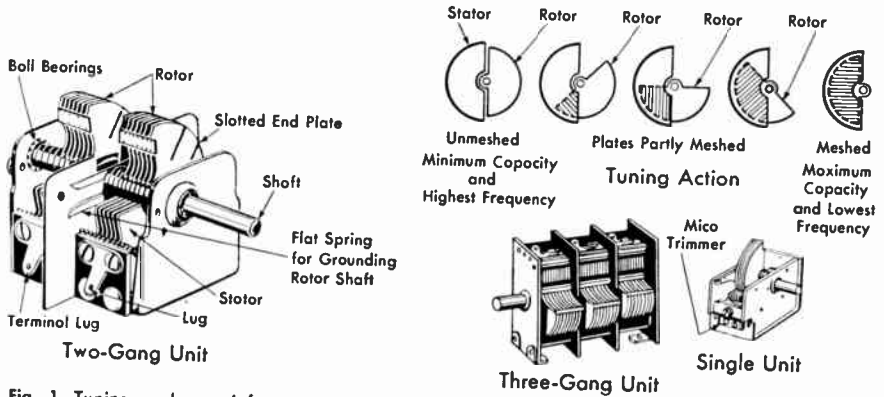

Fig. 1. Tuning-condenser information. Two-gang and three-gang units are the commonest
**Gang Tuning Condensers.** The two-gang tuning condenser shown in Fig. 1 is the commonest type you will find in radio sets. When the shaft is rotated, metal plates mounted on the shaft move between fixed metal
A receiver is tuned to the highest frequency in a band when the tuning-condenser plates are entirely apart or unmeshed, because this gives minimum capacity. Similarly, fully meshed plates tune to the lowest frequency and have maximum capacity, as indicated in Fig. 1. This fact is worth remembering when you are tuning in stations to try out a set on your workbench and have no tuning dial for guidance. In many sets the dial is attached to or printed on the cabinet, and does not come out when you remove the chassis.
**Slotted Plates.** On some gang tuning condensers the two outer plates of one or more rotor sections will have deep slots. This can be seen in Fig. 1. The slots permit bending sections of the outer plate in or out